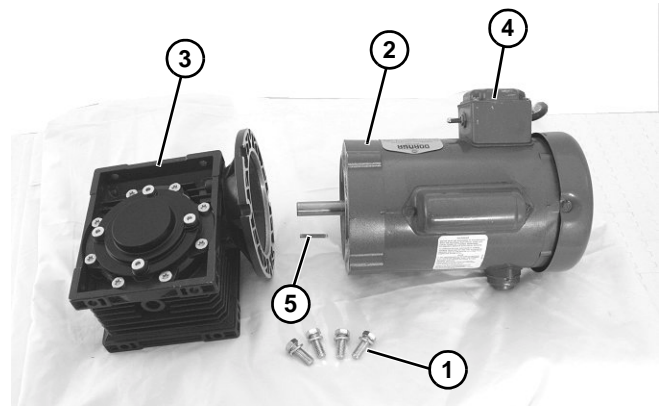

Figure 9
5. Remove four screws (**Figure 9, item 1**). Detach motor (**Figure 9, item 2**) from gear reducer (**Figure 9, item 3**), making note of position of switch (**Figure 9, item 4**) for reassembly. Retain motor output shaft key (**Figure 9, item 5**).